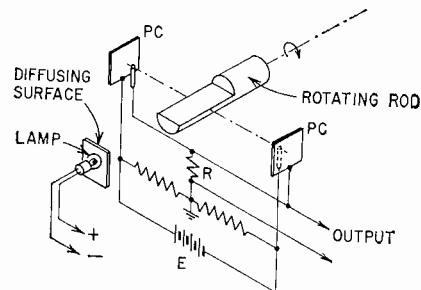

Fig. 1
between photocells (PC). Part of the rod is flattened as shown (Fig. 1). Diffused light from a lamp source enters the end face of the Lucite semicylinder and is radiated from the flat surface. The curved surface is painted opaque.